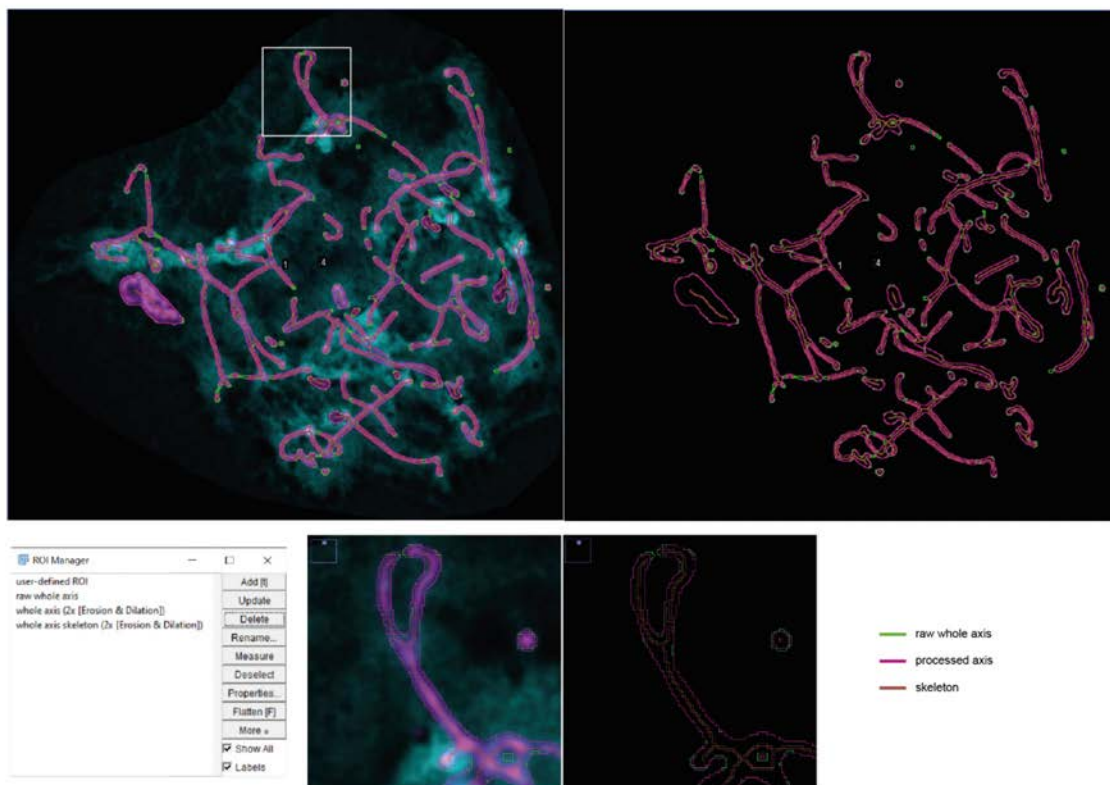

Fig. 4.12. The resulting ROIs produced by the Measure Axis Length macro.
The first image analysed will be opened together with its companion ROI set (lengths\_RoiSet\_[name].zip), as in fig. 4.12. There are a few different ROIs in the ROI Manager that are important to control:
- If a pruning method is set (OPTIONAL STEP B), then the raw whole axis and whole axis will be different. In the example image (fig. 4.12), the method called "2x Erosion" was used.